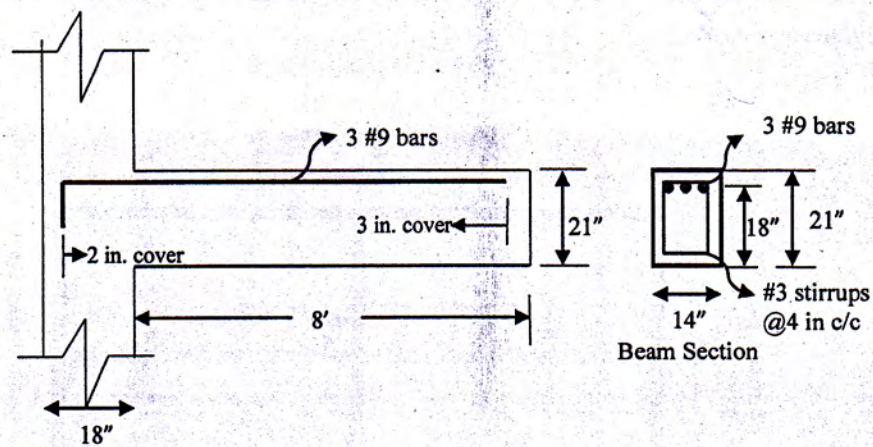

Figure 6
9. (a) Explain why flexural reinforcement bars are not cut at the theoretical cut off point. (2)
- (b) A cantilever beam section ($b = 14$ in., $h = 21$ in., $d = 18$ in.) is made of normal density concrete which is reinforced with 3 #9 bars and #3 stirrups @ 4 in. c/c. Reinforcement required from structural analysis is 2.5 in^2 . Check to see if adequate length of rebar is available for development length in the beam as shown in **Figure 6**. Given, $f'_c = 4$ ksi and $f_y = 60$ ksi. (8)